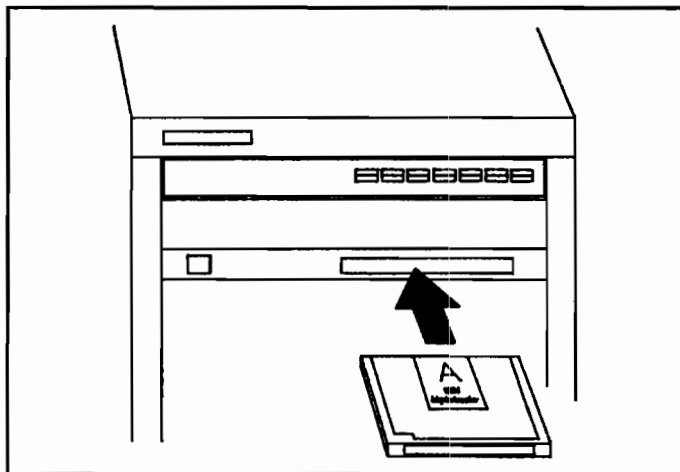
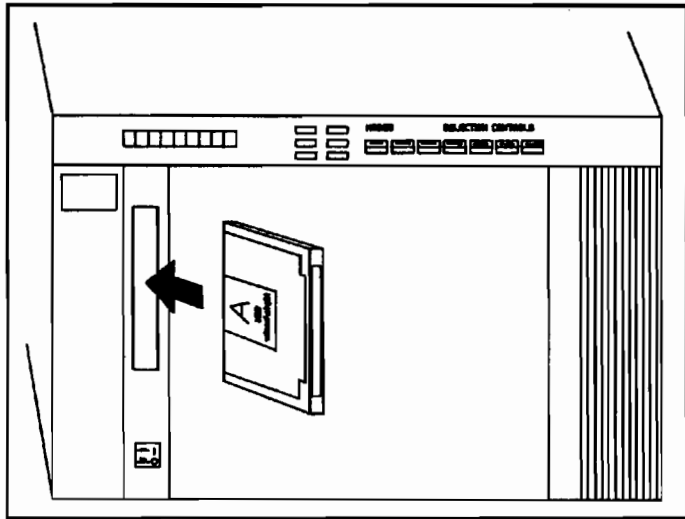

Figure 2-2.
Figure 2-3.
4. Insert the metal shutter end of one cartridge into the mailslot. If you do not fully insert the cartridge, the message **EMPTY** appears on the front panel. If this occurs, press **CANCEL** and insert the cartridge again. Refer to Figure 2-2 and Figure 2-3 for proper insertion orientation.